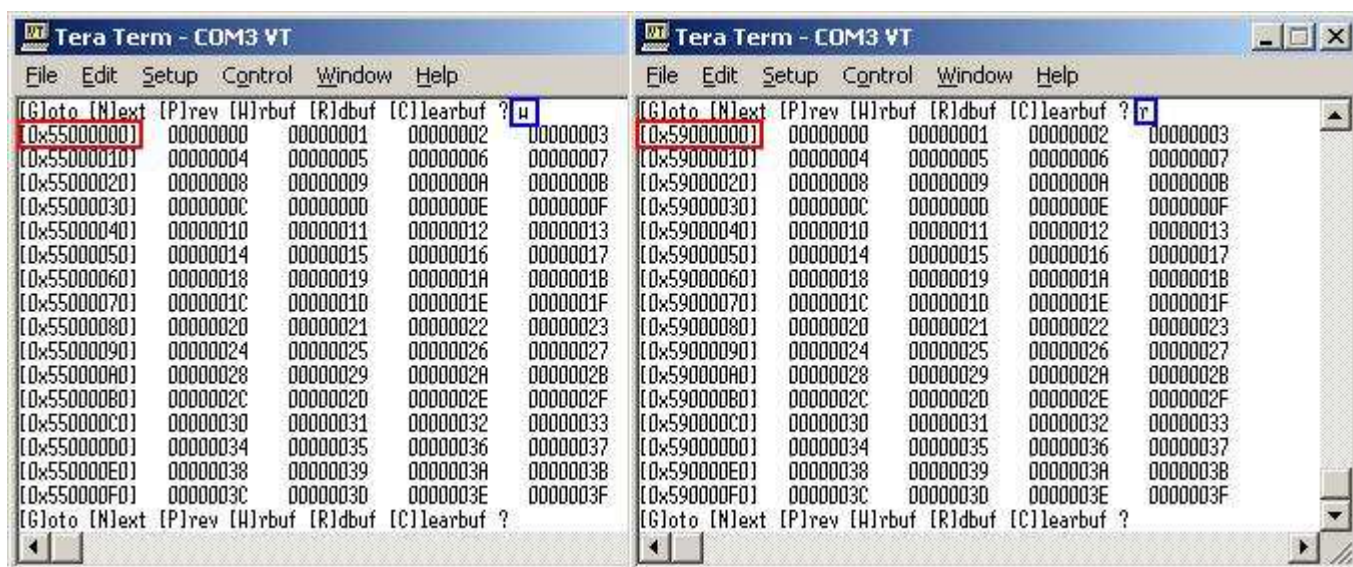

Figure 17 Read 256 byte data at top of write/read buffer
- 'W': this submenu is used to read 256 byte data at top of write buffer for disk#0, as shown in Figure 17.
- 'R': this submenu is used to read 256 byte data at top of read buffer for disk#0, as shown in Figure 17.